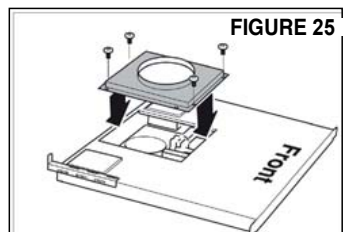

FIGURE 25
- The connection plate is installed using 4 screws as shown in FIGURE 25